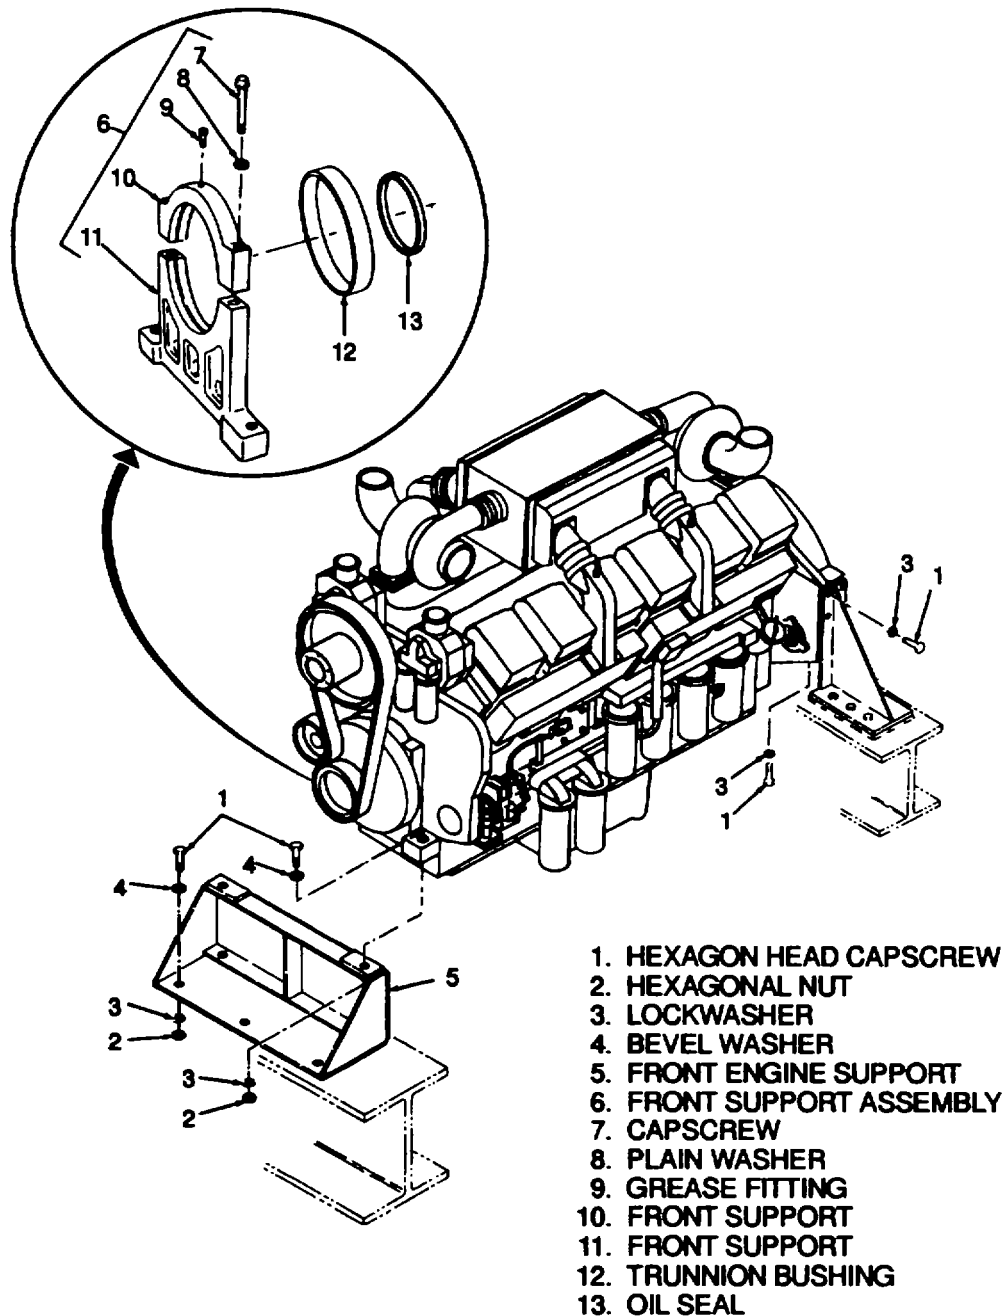

Figure 9-66. Front Support Assembly
- (1) Remove the cooling fan shrouds in accordance with the Operator and Organizational Maintenance Manual.
- (2) Remove the hexagon head capscrews (1, Figure 9-66), hexagonal nuts (2), lockwashers (3), and bevel washers (5) securing the front support assembly (6) to the front engine support (5). If damaged, remove the grease fitting (9)
- (3) Loosen the hexagon head capscrews (1) and hexagonal nuts (2) at the rear engine support slightly.
- (4) Using a wooden block to protect the oil pan, and a hydraulic jack of 5 tons (4.5 t) capacity placed just behind the front support assembly (6), raise the front of the engine slightly.
- (5) Remove the hexagon head capscrews (1), hexagonal nuts (2), lockwashers (3), and bevel washers (4) securing the front engine support (5) and skid base.